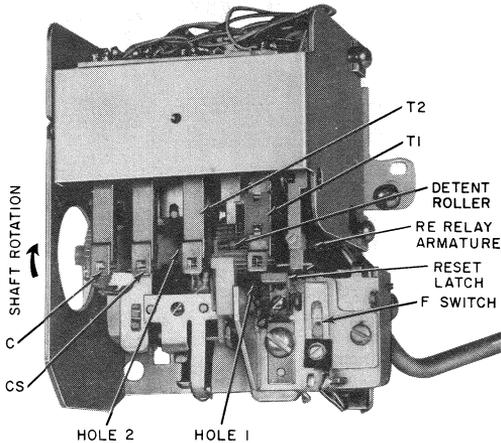

Fig. 14—Checking Totalizer Rate (Typical)
Use extreme care when checking initial rate or resetting totalizer. Avoid damaging pawl and spring pile-ups. Do not attempt to turn totalizer cam shaft in direction opposite to that shown in Fig. 14.
- (2) Loosen retaining screw and remove transparent dust cover.
- (3) Rotate shaft in the proper direction (Fig. 14) until detent roller on detent wheel is positioned between the two black marks. This occurs at the same time T2 rests in depression in shaft. This position is called **home** position.
- (4) Release the reset latch by momentarily pressing downward on the armature of the RE relay (Fig. 14).
- (5) Slowly rotate shaft in proper direction, and count the steps until T1 springs operate (indicated by forward movement of reset latch).
- (6) Each step rotated from home position represents a 5-cent rate as shown in Table J.
- (1) Rotate shaft in proper direction (Fig. 14) until it is in home position as described in paragraph 3.14(3).